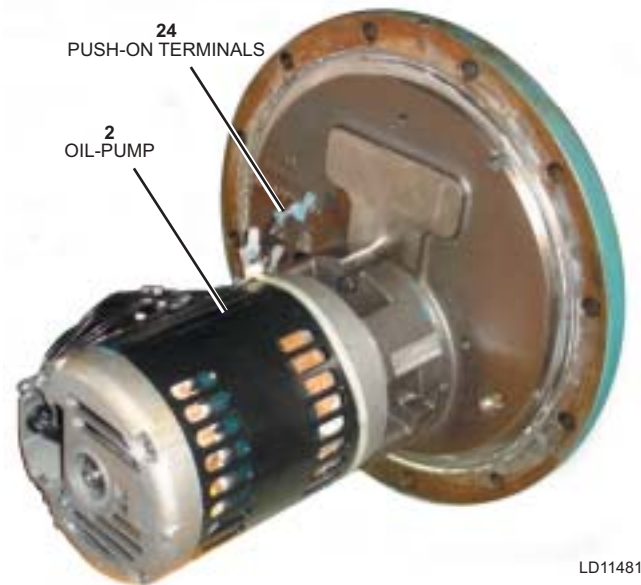

FIG. 71 – OIL PUMP & COVER PLATE REMOVAL
5. After all bolts are removed, pull the oil sump cover loose and remove the cover and oil pump assembly (see Fig. 71).